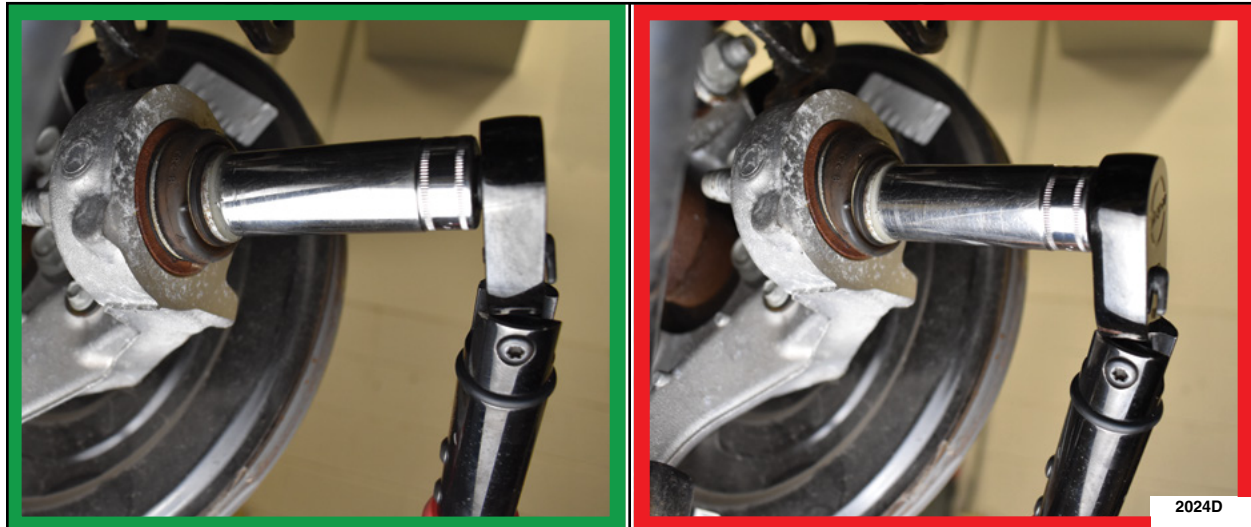

FIGURE 5
7. Using a digital or dial type torque wrench, rotate the toe link to wheel knuckle bolt while keeping the ball joint straight. Do not allow the ball joint to twist as shown in the red picture below. Note the reading off of the torque wrench when the ball joint begins to rotate. See Figure 5.